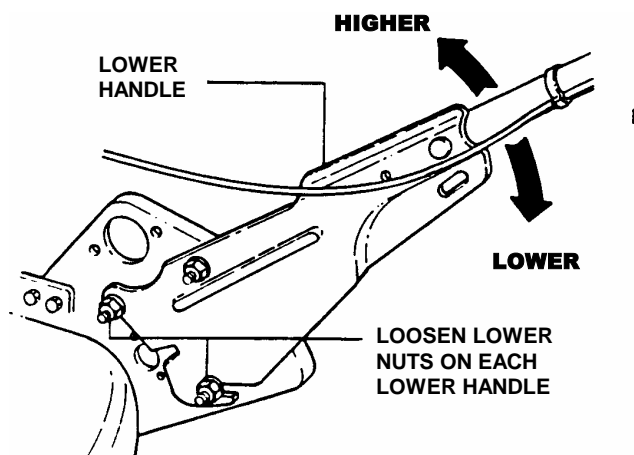

FIGURE 2.5
1. Loosen the lower nuts on each lower handle as shown in Figure 2.5.